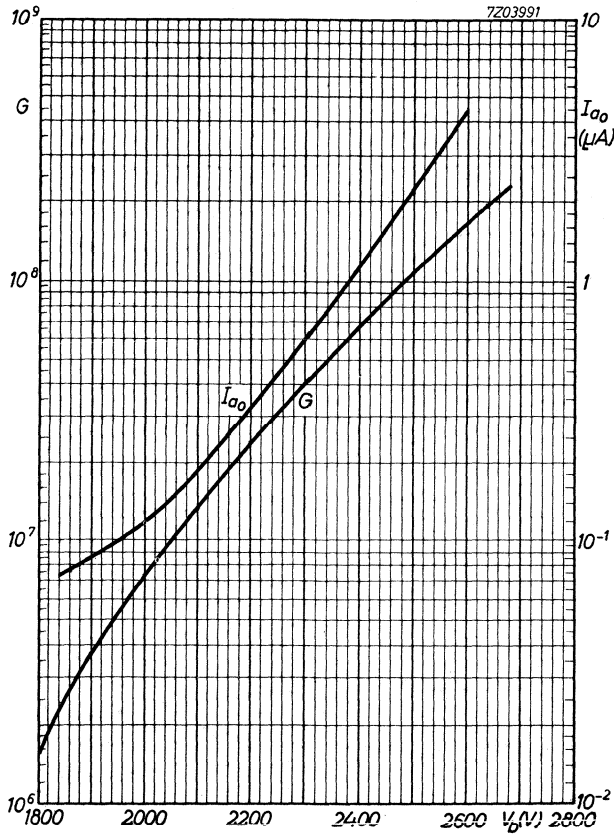

Fig. 2
- B. The multiplier system consists of 14 stages, providing a total current amplification of 10^8 at about 2500 V (see Fig. 2).